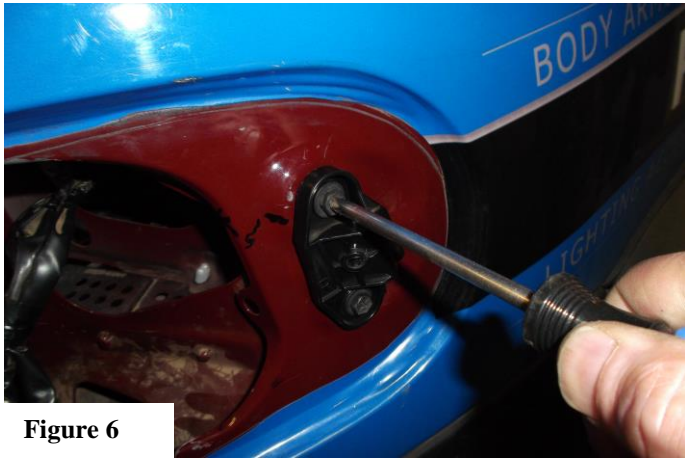

Figure 6
3. After removing the Factory tail lights, remove the side post receivers from the sheet metal by removing the two screws and pulling the plastic away from the sheet metal. See **Figure 6**.